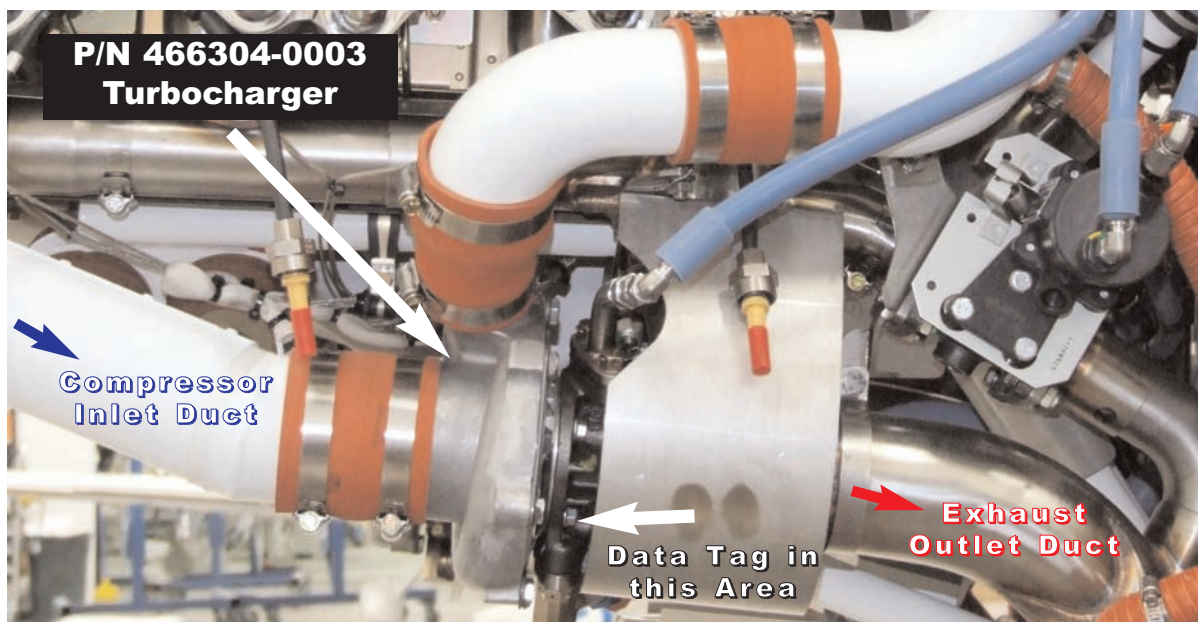

Figure 1 - Turbocharger Installation
2. Remove the compressor inlet ducts to expose the compressor wheels using the STC holders instructions. Refer to Figure 1.
1. The affected turbocharger part number 466304-0003 must be removed and replaced per the table shown on page 1. Each aircraft has two turbochargers. Check the data tag on each to identify whether the serial number of the turbocharger is one that is affected. When identification is made, remove the turbocharger from the aircraft. Removal must be in accordance with the aircraft, engine, and/or STC holders maintenance manuals or service instructions. Contact the aircraft manufacturer to determine the disposition of the suspect turbocharger and information regarding the return of the turbocharger(s). All warranty applications must be made through the aircraft manufacturer. *Refer to Fig 1 as required.*